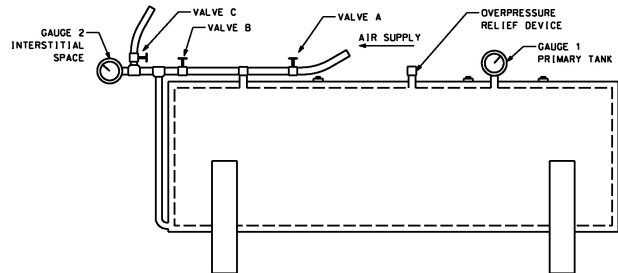

FIGURE 3.2.2.1
- 3.2.2.1 Install test piping as shown in Figure 3.2.2.1. Temporarily plug, cap or seal off remaining tank openings to hold pressure.